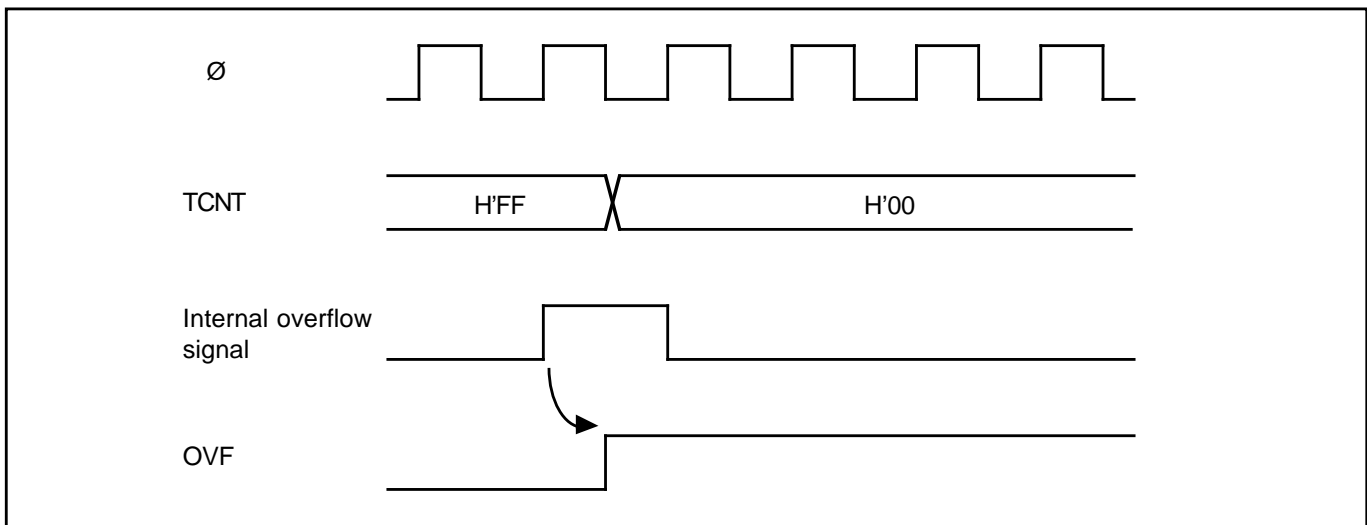

Figure 7-10. Setting of Overflow Flag (OVF)
(1) Setting of TCSR Overflow Flag (OVF): The overflow flag (OVF) is set to “1” when the timer count overflows (changes from $H'FF$ to $H'00$). Figure 7-10 shows the timing of this operation.